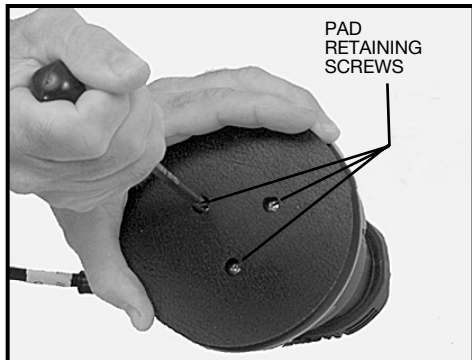

Fig. 9
2. Grasp pad with hand and use phillips screwdriver to remove three pad retaining screws, Fig. 9 (turn screws counterclockwise to remove).